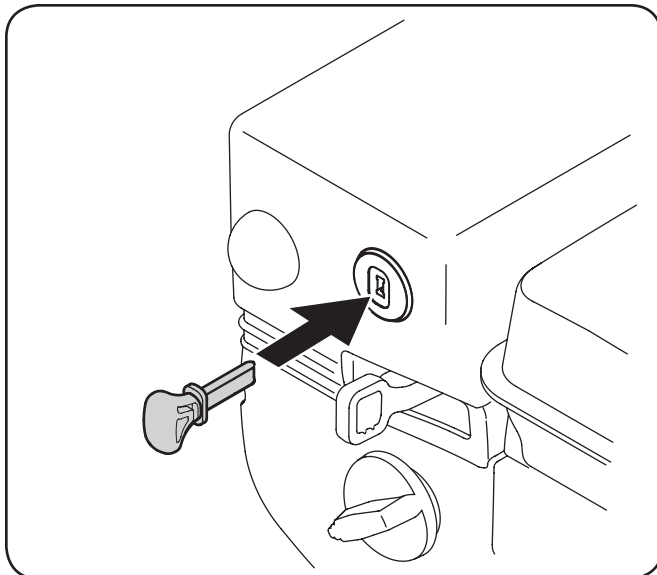

Figure 5-1
2. Insert the ignition key fully into the slot, Fig. 5-1. Make sure it snaps into place. DO NOT turn the ignition key. The engine cannot start unless the key is inserted into the ignition switch.
1. Insert the ignition key fully into the slot, Fig. 5-1. Make sure it snaps into place. **DO NOT** turn the ignition key. The engine cannot start unless the key is inserted into the ignition switch.